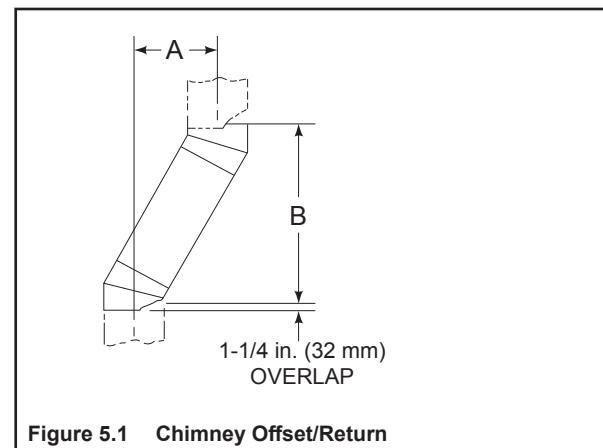

Figure 5.1 Chimney Offset/Return
- Measure how far the chimney needs to be shifted to enable it to avoid the overhead obstacle. See Figure 5.1. Use dimension "A" to determine chimney section required to achieve the needed shift.